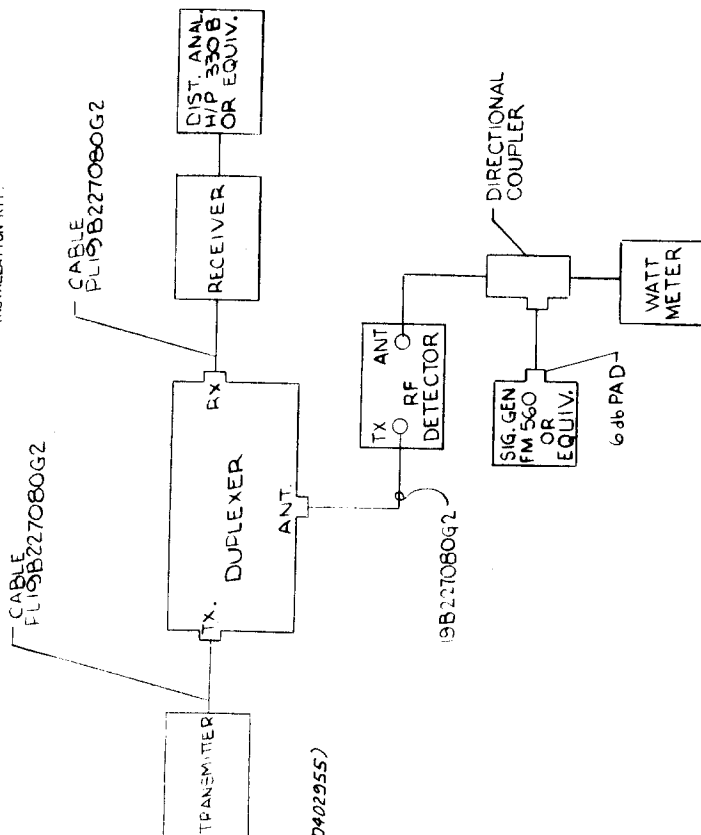

FIG. 1
1. CONNECT STATION PER FIG. 1. ADJUST SIGNAL GENERATOR TO PRODUCE 12 DB SINAD